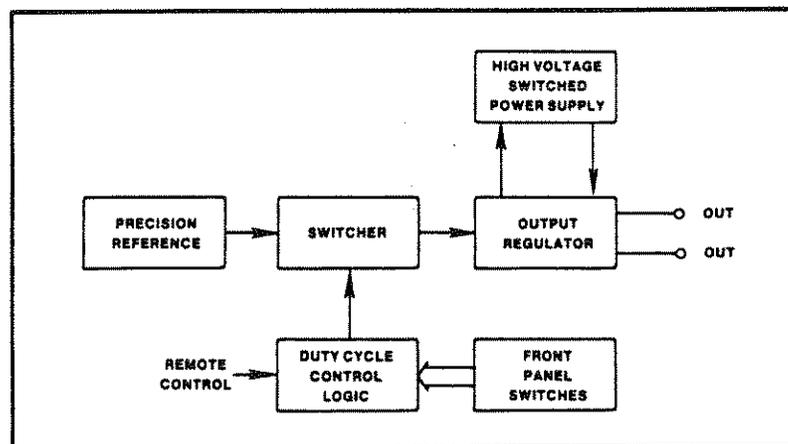

Figure 4-1. Block Diagram, Model 2701B Precision DC Voltage Calibrator.
4.2 This section of the manual provides functional and detailed descriptions of the circuits of the Model 2701B Programmable Precision DC Calibrator. The functional descriptions are referenced to the block diagram of Figure 4-1, and are intended to assist the user in gaining a general understanding of the instrument prior to study of the detailed circuit descriptions. The material of this section, together with that of Section V, will provide the information necessary for maintenance of the instrument.
4.4 The Model 2701B comprises a coarsely regulated switching power supply feeding a series regulator. The output of the regulator is controlled by a precision variable reference voltage. A fixed voltage is precisely divided to produce the precision reference voltage. The division of the fixed voltage is accomplished, using digital techniques, by switching the reference on for a precise percentage of the time, determined by the setting of the front panel voltage selection switches. This produces a series of pulses with an average DC level precisely related to the pulse width. An oven-stabilized voltage reference provides the fixed voltage. The accuracy of the instrument is primarily determined by the stability of this voltage and is in the order of 0.0015%. The following circuit descriptions are arranged under headings corresponding to the designators in Figure 4-1.